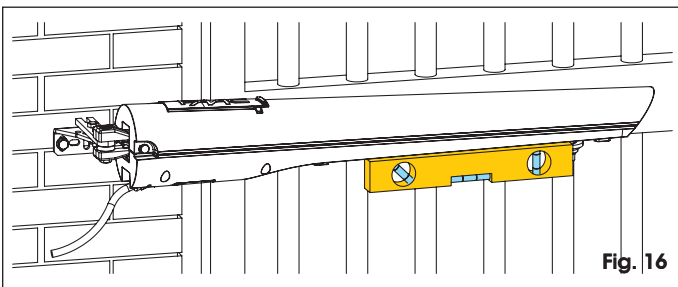

Fig. 16
- Check that the operator is horizontal using a spirit level, as indicated in figure 16, and provisionally secure it with clamps or two welding points.